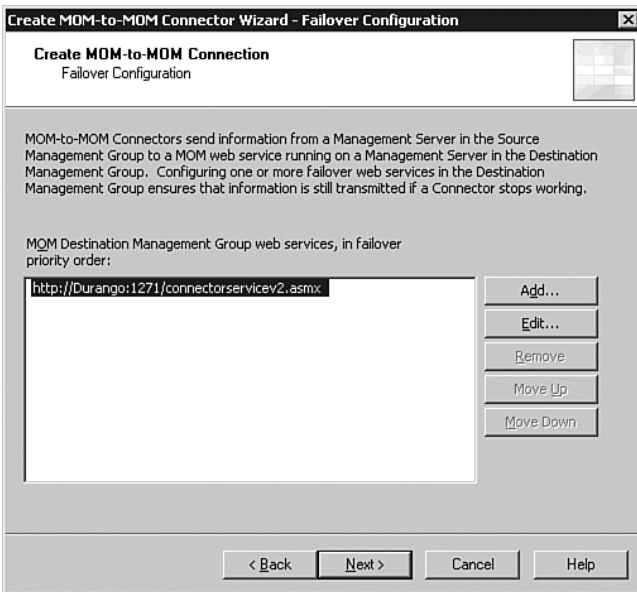

FIGURE 19.10 The Failover Configuration screen.
5. Next is the MMPC failover configuration screen. You can configure the destination management group with multiple web services for increased reliability. For instance, if you have more than one management server, you can install the MCF on each management server in the destination management group. The failover configuration screen allows you to specify the order of priority for the additional servers if a management server fails. In this example, the Group2 management group only has one management server (one web service), so it is the only server listed. Figure 19.10 shows the failover configuration screen.